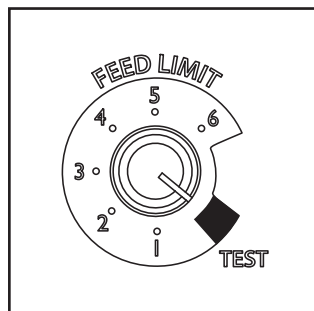

Figure 4.3
3. For your first fire it may be necessary to purge the auger system by putting the feed limit knob to “Test” prior to starting the unit. Figure 4.3. This insures that plenty of fuel enters the burn pot for proper ignition.